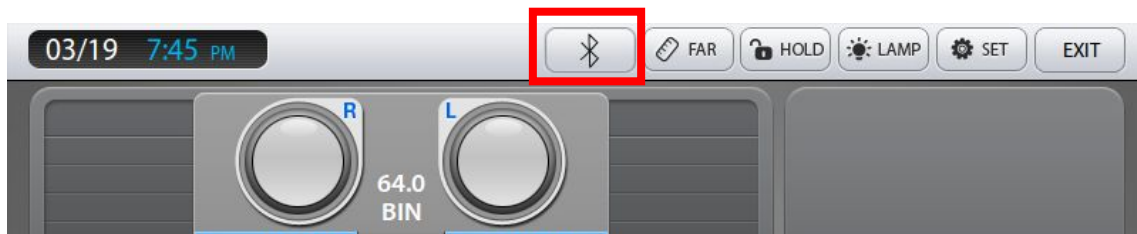

Figure 5
- Make sure that the Bluetooth menu () is displayed at the top of the PDR-7000 screen (Figure 5).